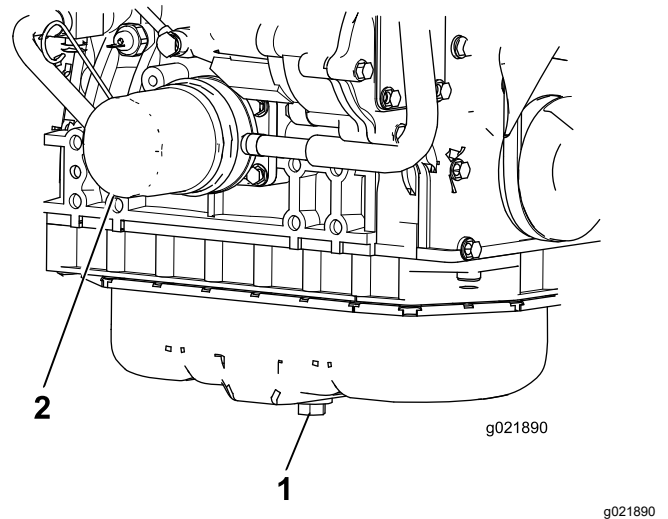

Figure 41
1. Remove the oil-drain plug (Figure 41) and let the oil flow into a drain pan. When all the oil is drained, install the drain plug.
2. Remove the oil filter (Figure 41). Apply a light coat of clean oil to the new filter seal before screwing it on. **Do not overtighten.**